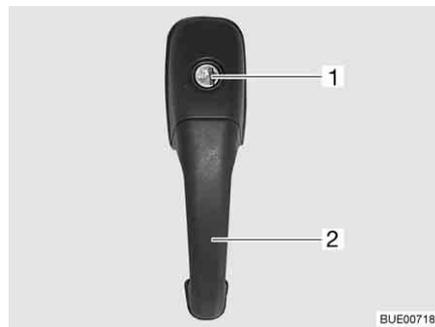

Fig. 26 Door lock of conversion door, outside
- Insert the key into locking cylinder (Fig. 26,1) and turn until the door lock is unlatched.
- Pull on the handle (Fig. 26,2). The door is open.
- Insert the key into locking cylinder (Fig. 26,1) and turn until the door lock is engaged.